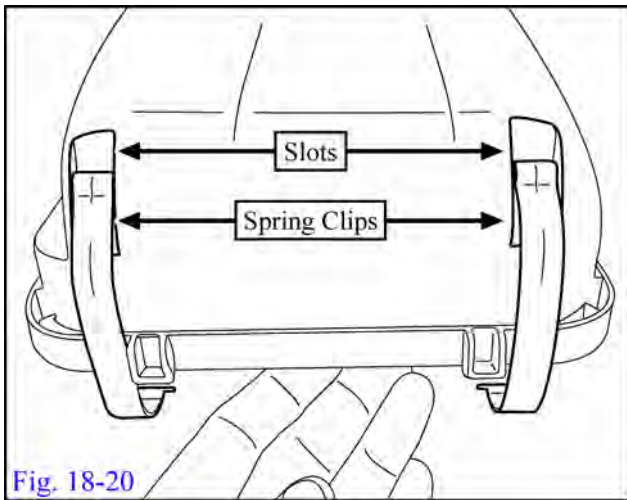

Fig. 18-20
- (z) Install two supplied spring clips into the open slots on the air cleaner inlet as shown. (Fig. 18-20)